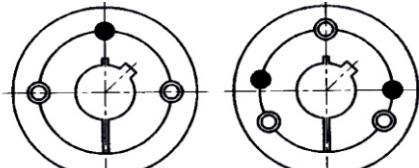

Fig. 1
2. Insert the taper bush into the element hub and line up all connecting bores. Make sure that half threaded bores coincide with half plain bores (Fig. 1).